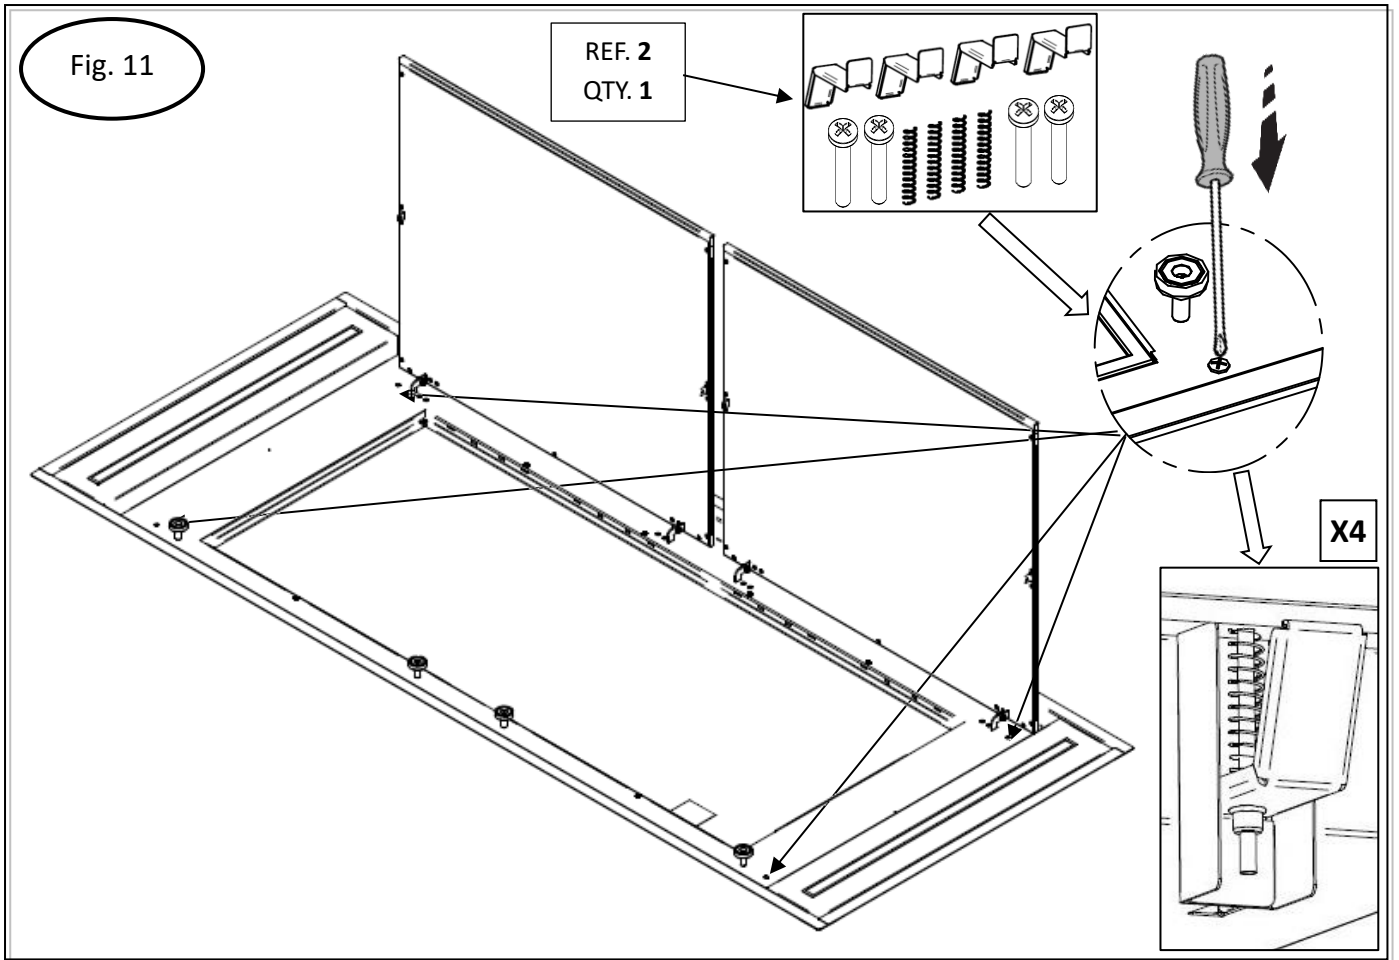

Fig. 12
- Pass the CONDUIT through the gap in the hood where the junction box was initially fixed. Now insert the hood body into the cut-out in the ceiling and ensure that the 4 brackets are engaged (fig.12).